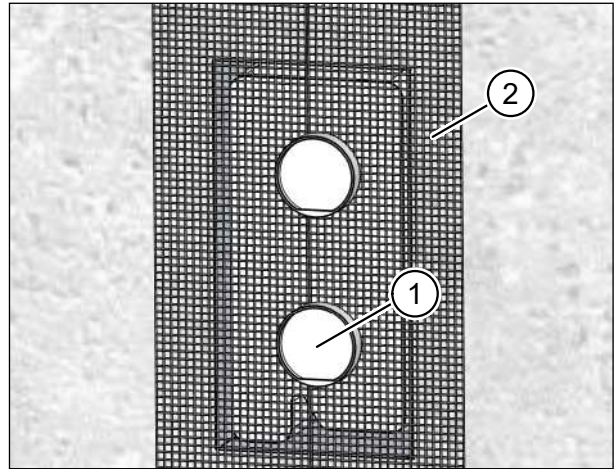
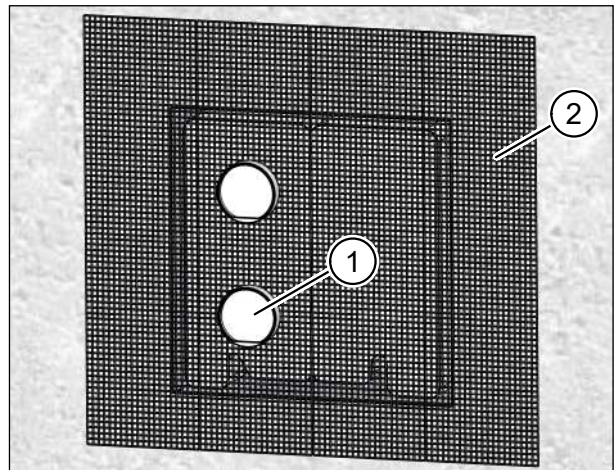

Fig. 30: Plastering the installation kit **without** filler piece
Fig. 31: Plastering the installation kit **with** filler piece
- ▶ Insert the protective sleeves (item 1 in Fig. 30 and Fig. 31). They should extend beyond the solid wall so that they will end flush with the subsequent plaster coat. The protective sleeves provide the bonding surface for the external plaster.
- ▶ Apply the plaster scrim (item 2 in Fig. 30 and Fig. 31) to the outside of the wall box, to the masonry and to the facade insulation.